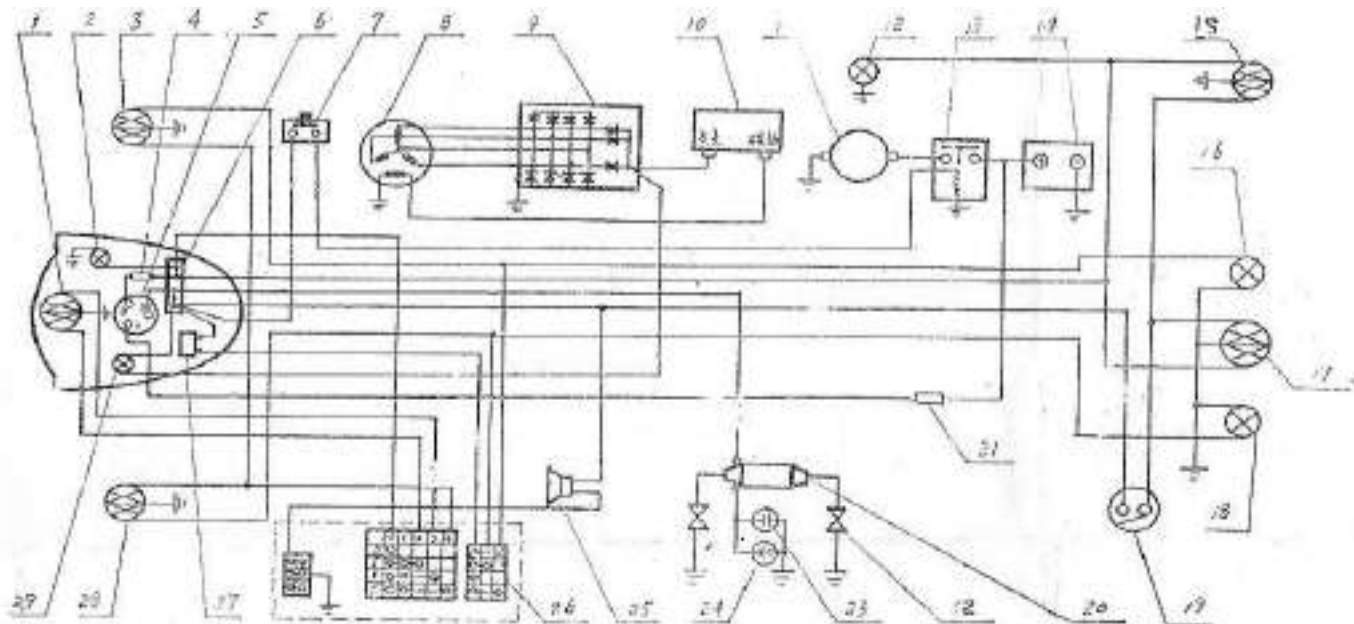

Fig.15 Circuitry of the Motorcycle Powered by Engine CJ-750(MIM)
5.1.2 Generator MJF-280B complemented with engine CJ-750MIM is a negatively grounded AC generator, whose rated power is 280w, rated voltage is 12v. The motorcycle circuitry is shown in Fig 15.